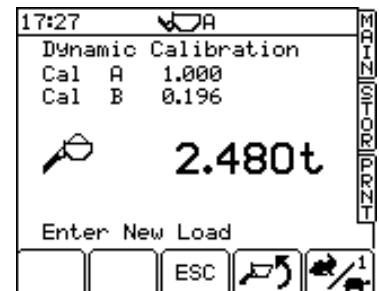

Figure 10
4. Lift the bucket at maximum speed through the weighing position. The screen will display a weight reading and the message "Enter New Load" (fig. 10).